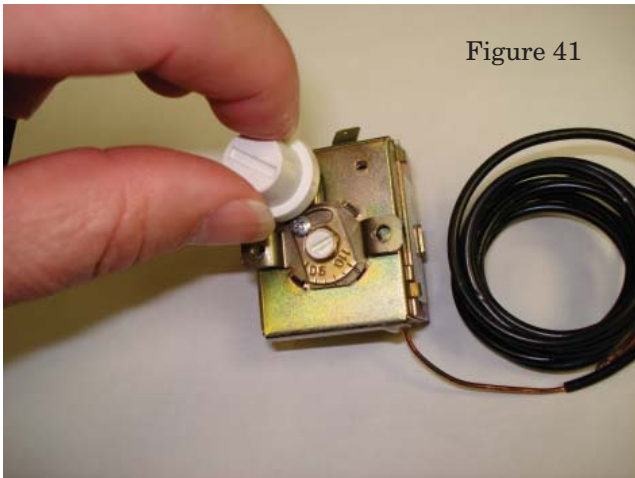

Figure 41
1. Remove the cover from the reset button on the new manual reset water temperature limit switch by turning counter clockwise. See Figure 41.